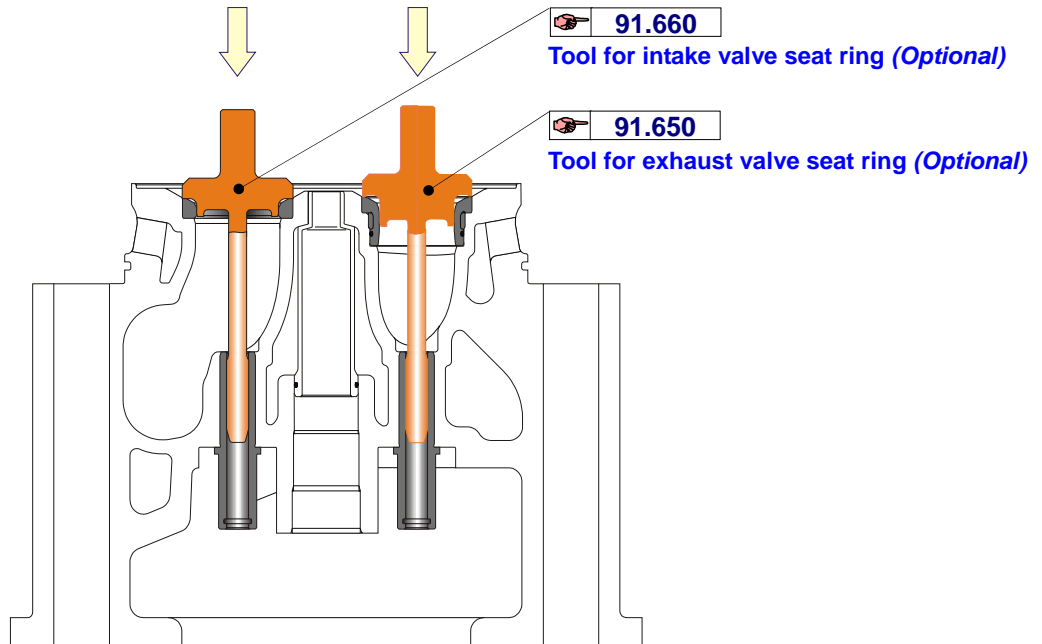

Fig. 2 Mounting of intake and exhaust valve seat rings (흡기 및 배기 밸브 시트 링의 조립)
3. Fit the seat ring into the cylinder head by cooling or by pressing as shown in fig 2.
5. Fit the seat ring by pressing or hammering on the tool as shown in fig 2.